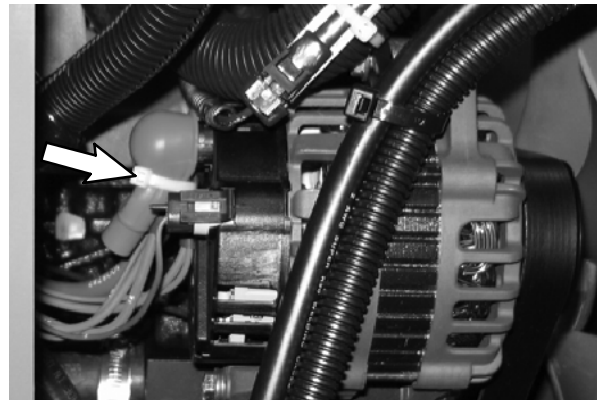

FIG. 16
- Inspect the red boot on the alternator. The boot should be firmly attached to and completely cover the terminal. Tighten a wire tie around the boot to secure the boot onto the wires attached to the alternator. Refer to Fig. 16.